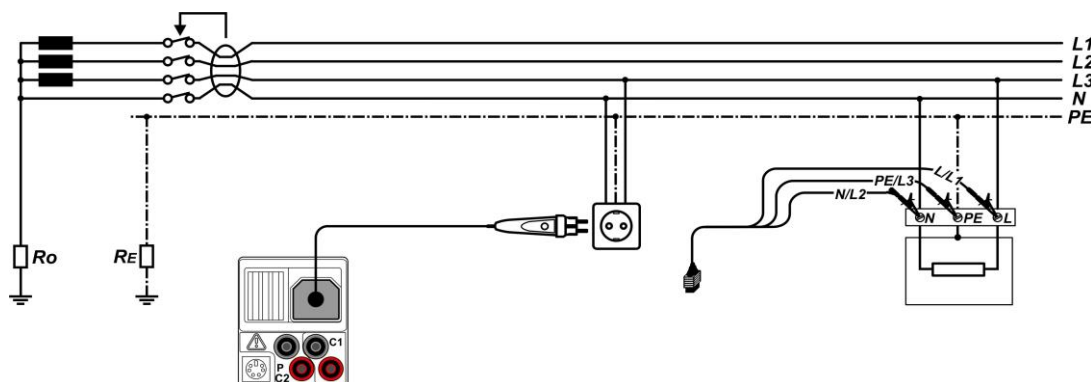

Figure 5.17: Connecting the plug commander and the 3-wire test lead
- ❑ **Connect** test leads to the item to be tested (see *figure 5.17*).
- ❑ **Connect** test leads to the item to be tested (see figure 5.17).
<ul style="list-style-type: none"> <li>❑ Select the RCD function using the function selector keys.</li> <li>❑ Set sub-function AUTO.</li> <li>❑ Set test parameters (if necessary).</li> <li>❑ Connect test cable to the instrument.</li> <li>❑ Connect test leads to the item to be tested (see figure 5.17).</li> <li>❑ Press the TEST key to perform the test.</li> </ul>	Start of test